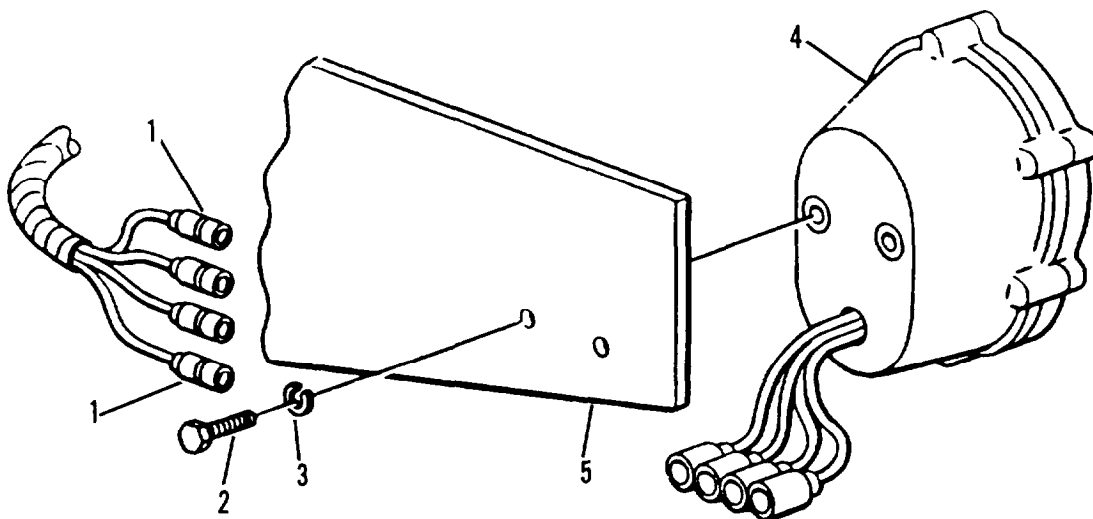

Figure 4-3. 12 volt taillight assembly.
- (1) Pull connectors (1, figure 4-3) apart.
- (2) Remove two screws (2) and lockwashers (3) that hold 12 volt taillight assembly (4) to bracket (5).
- (3) Remove 12 volt taillight assembly (4).
(1) Install taillight assembly (4, figure 4-3) on bracket (5) and secure with two lockwashers (3) and capscrews (2).
(2) Connect cable connectors (1).